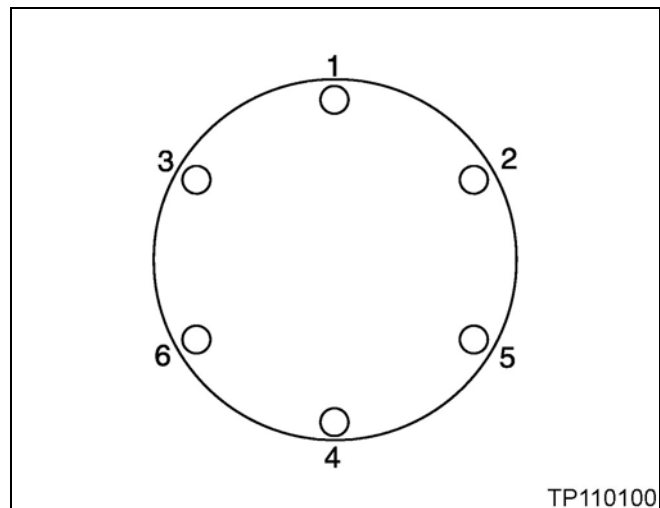

Figure 2
- See Figure 2 for torque sequence.